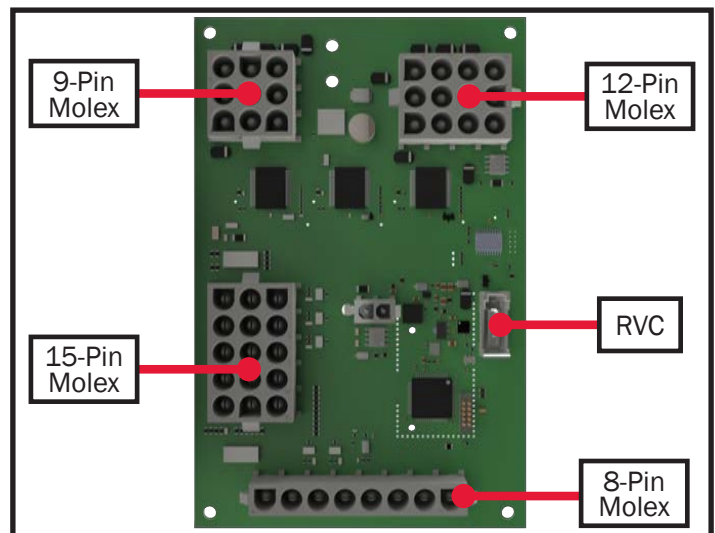

Figure 20
- Ensure the controller is properly oriented - reference Figure 20.